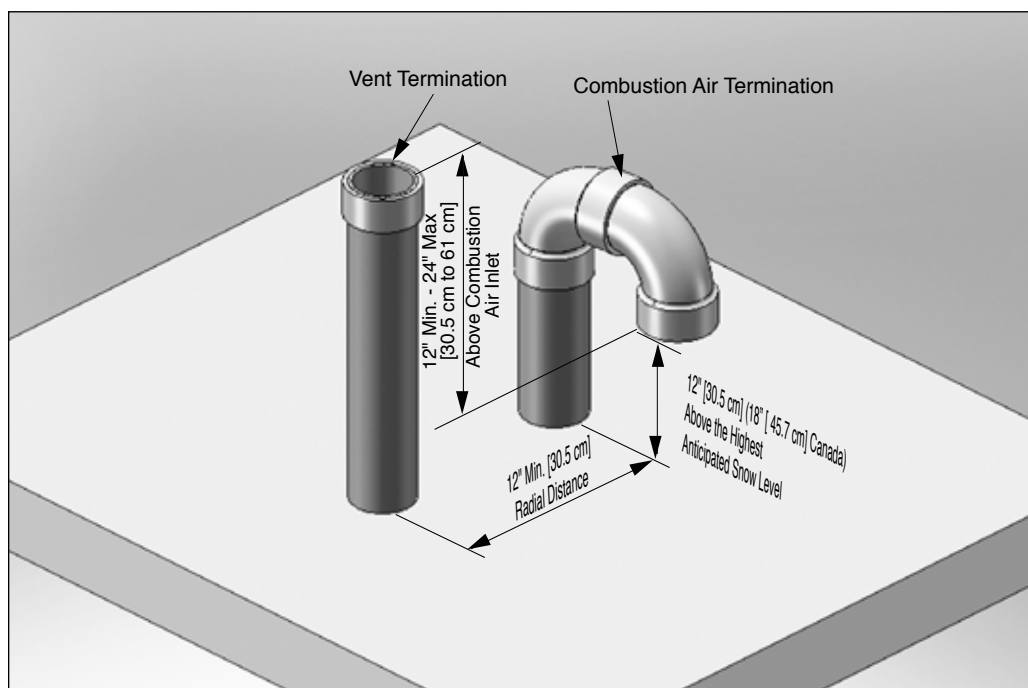

Fig. 1 - Direct Vent - Vertical Termination of Vent and Combustion Air Piping.
2. The combustion air piping must terminate in an upside down "U" shape fashion using two 90° elbows, as shown in *Fig. 1 on page 12.* The termination must be located 12" [30.5 cm] (18" [45.7 cm] in Canada) above the highest anticipated snow level.
3. The vent piping must terminate vertically with a coupling to accept the bird screen and must be located 12" to 24" [30.5 cm to 61 cm] above the combustion air inlet as shown in *Fig. 1 on page 12.*
4. The vent and combustion air terminations must be located at a radial distance of 12" to 24" [30.5 cm to 61 cm] from centerline of vent termination to centerline of air termination as shown in *Fig. 1 on page 12.*
3. Locate the vent and combustion air pipe penetrations to provide clearances as described in *Fig. 1 on page 12*.
2. The combustion air piping must terminate in an upside down "U" shape fashion using two 90° elbows as shown in *Fig. 1 on page 12*.
3. The vent piping must terminate vertically with a coupling as shown in *Fig. 1 on page 12*.
Do not extend the vent pipe above the roof beyond the dimensions shown in *Fig. 1 on page 12*. Extended exposure of the vent pipe could cause condensate to freeze and block the vent pipe, resulting in substantial property damage, serious injury, or death.